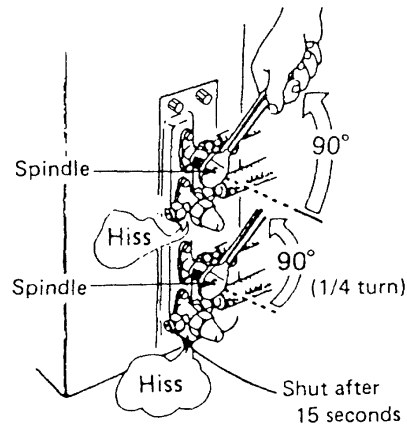

Fig. 12
- e) Shut the spindle of the service valve on the narrow pipe. (Fig. 12)